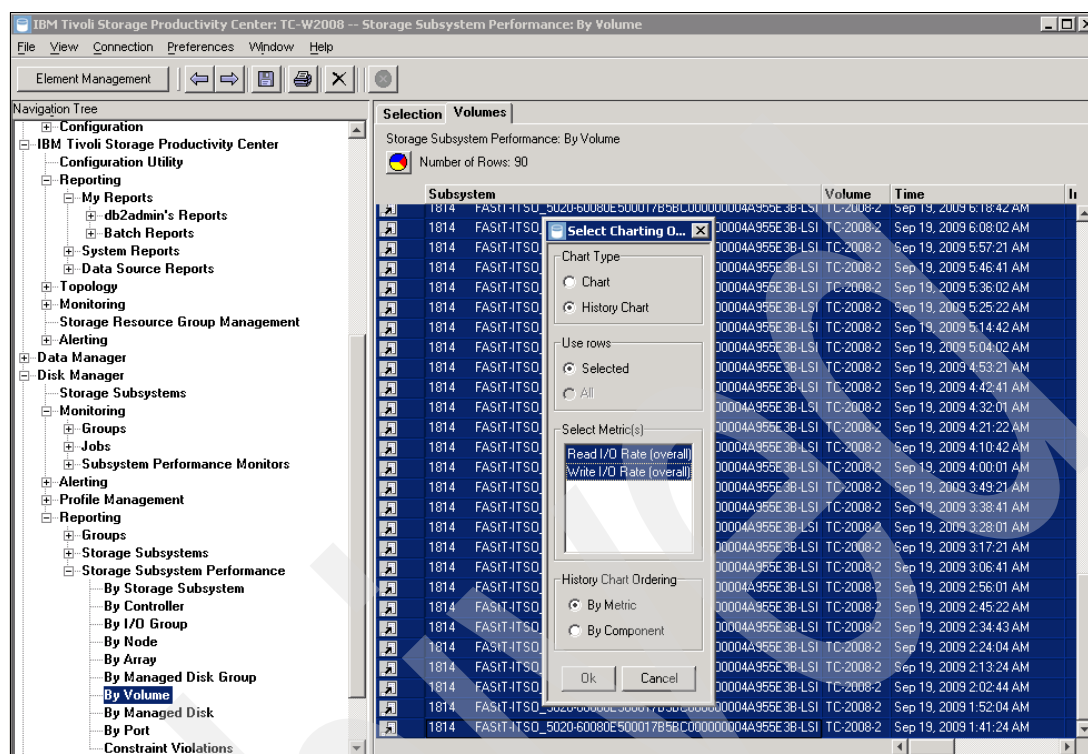

Figure 9-37 Select Charting window
- Now we generate a chart. Select all of the results and click the chart icon, then select **History Chart** and all of the metrics, as shown in Figure 9-37.